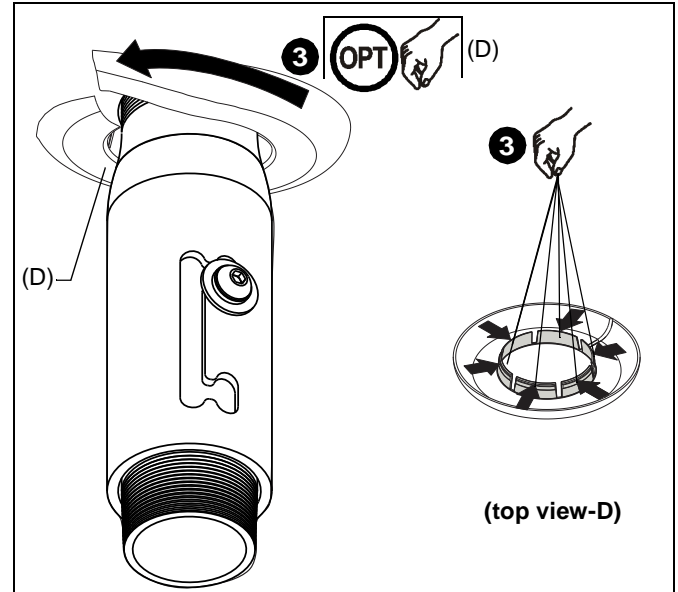

Figure 16
3. **CMA450 ONLY:** Install finishing ring (D) to extension column below ceiling tile (See Figure 16). If necessary, bend six tabs inward to secure ring to column.